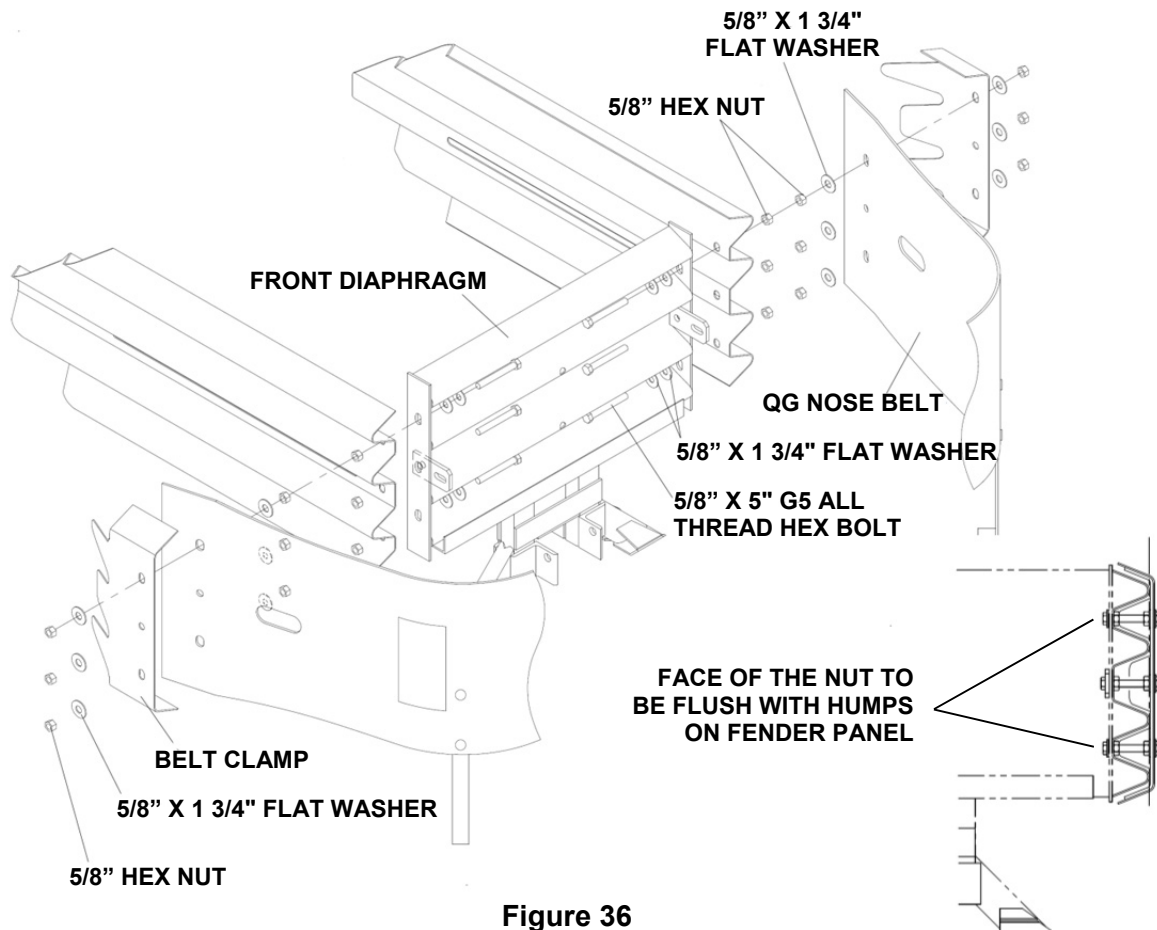

Figure 36
- Using 5/8" x 5" hex bolt, two (2) 5/8" x 1 3/4" flat washers and 5/8" hex nut, attach Fender Panel to front Diaphragm top and bottom as shown in Figure 36 (two places per side).
- Thread second 5/8" nuts onto the attached bolts. Be sure the faces of the nuts are flush with humps on Fender Panels (see Figure 36). Slide third 5/8" x 1 3/4" flat washers onto bolts (three places per side).